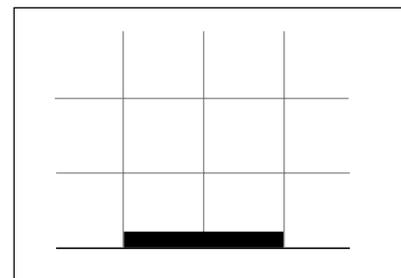

Fig. 3
- Write them so that the horizontal lines in the upper and lower positions are put in the ruled lines as shown in Figure 3.